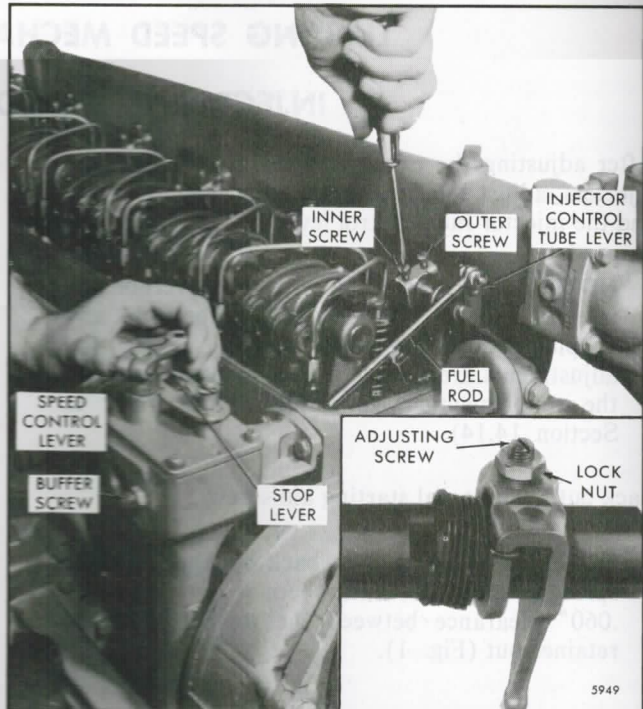

Fig. 4 - Positioning No. 1 Injector Rack Control Lever
5. Remove the fuel rod from the differential lever and the injector control tube lever (Fig. 4).
Adjust the No. 1 injector rack control lever first to establish a guide for adjusting the remaining injector rack control levers (Fig. 4).